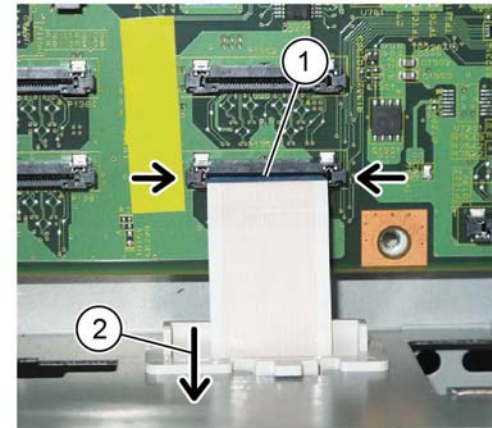

Figure 4 FFC cable
5. Disconnect the FFC cable, Figure 4:
- a. Carefully disconnect the FFC cable (1) by releasing the side clips.
- b. Pull down the FFC cable (2).